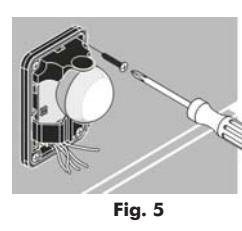

Fig. 5
- 6 - Mount the photocell with the screws supplied (Fig. 5);